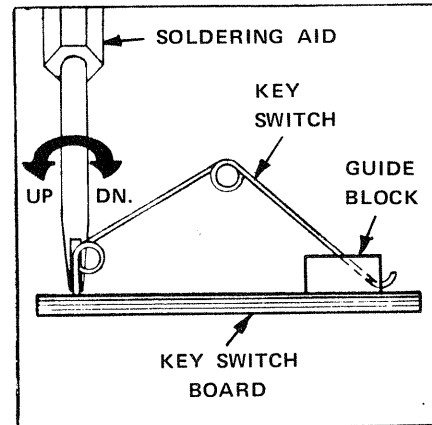

FIGURE 9-68 Key Switch height adjustment.
A. If the Key Switch makes contact BEFORE the Key bottom touches the Test Jig, the Key Switch is too HIGH. To adjust the height of the Key Switch, place the double pronged end of the Soldering Aid at the base of the Key Switch and bend the Switch FORWARD. See FIGURE 9-68, recheck the operation of the Switch and readjust it, if necessary, until it works properly, see the NOTE below and proceed to STEP 9-88.